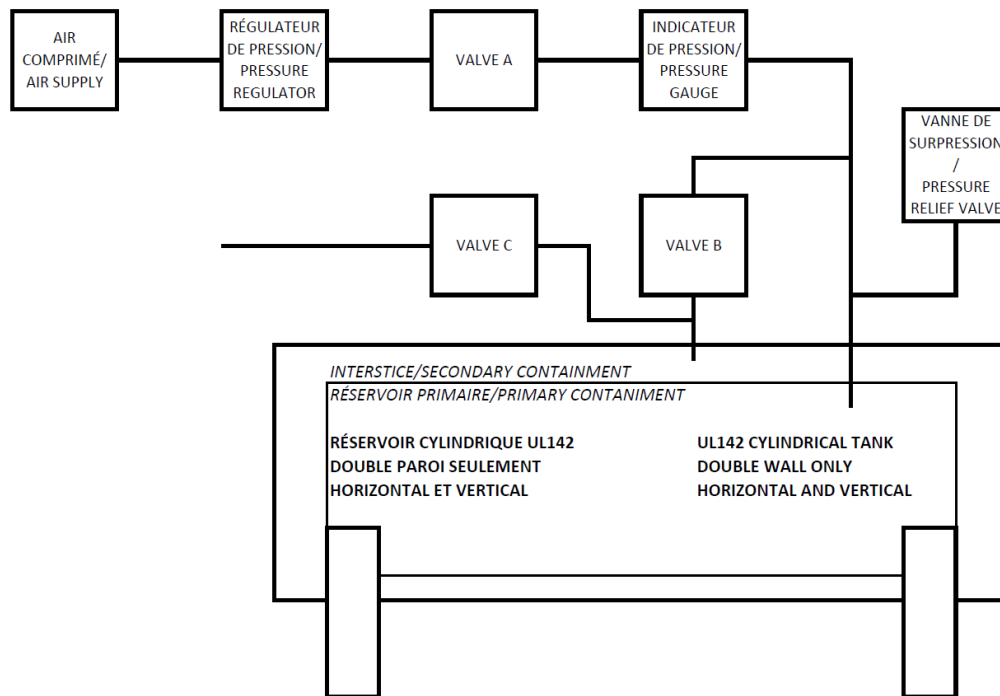

Figure 2 Double wall tank pressurizing procedure - Procédure test de pression pour réservoir double paroi sans interstice sous vacuum
- 1) Install the test piping as Figure 2. Close valves A and B. Seal all remaining openings temporarily to maintain the pressure. Make sure the compressed air supply is closed.
- 1) Installez la tuyauterie de test tel que la figure 2. Fermez les valves A et B. Scellez temporairement les ouvertures restantes pour maintenir la pression. Assurez-vous que l'air comprimé est fermé.
This is a suggested piping configuration; your final set up may differ from the one shown in Figure 2. This setup and procedure are only suited for horizontal and vertical **double wall** tanks without interstice under vacuum.